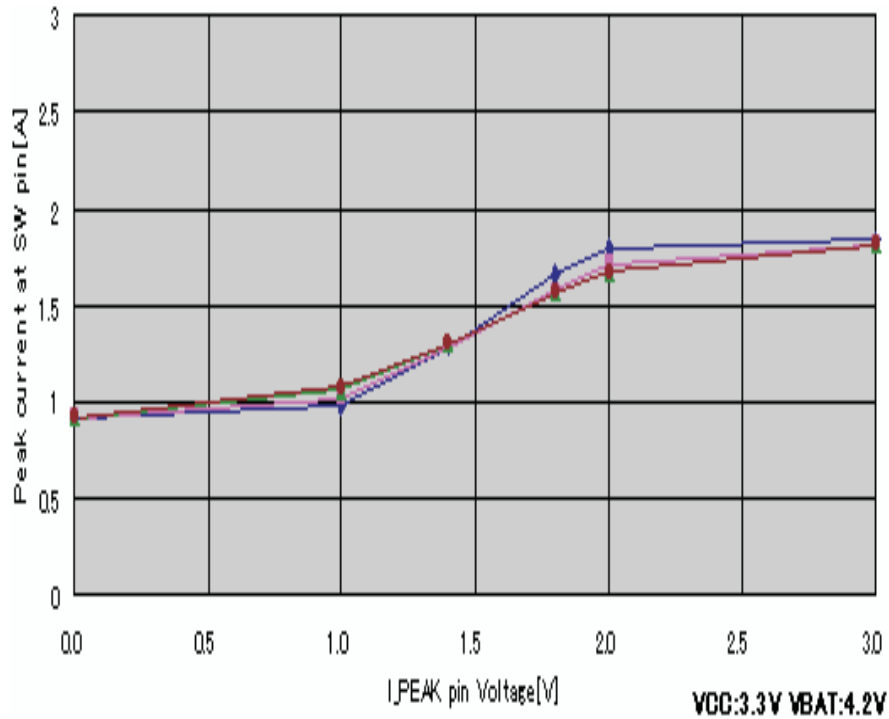
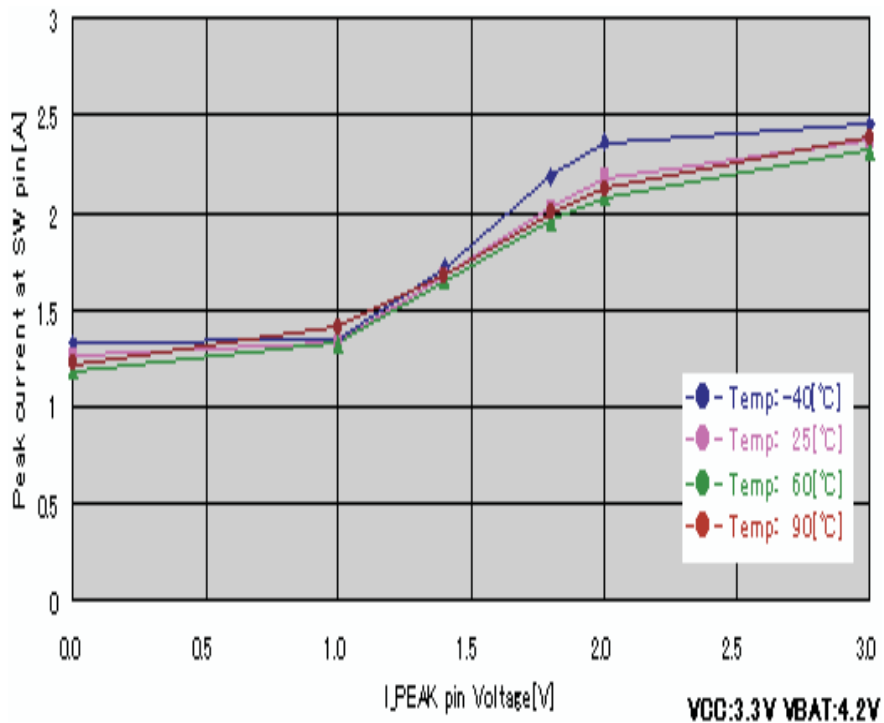

Figure 9. I_{PEAK} Pin Voltage vs Peak Current (TPS65560)
Figure 10. I_{PEAK} Pin Voltage vs Peak Current (TPS65561)
- It is easy to program the peak current at the primary side. The peak current can be set from $I_{(PEAK1)}$ to $I_{(PEAK2)}$ by using the I_PEAK pin of the TPS65560/TPS65561 (see Figure 9). These values ($I_{(PEAK1)}$ and $I_{(PEAK2)}$) are specified in each product data sheet. Section 2.1.3 discusses this in detail.
The I_PEAK pin of the TPS65560/TPS65561 is used to define the peak current in the primary of the transformer. The programmable range is from 0.8 A to 1.8 A. The I_PEAK input is treated as a logic input when its voltage is below $V_{(PKL)}$ (0.6 V) and above $V_{(PKH)}$ (2.4 V). If the input is less than $V_{(PKL)}$ or more than $V_{(PKH)}$, the value of the peak current is equal to $I_{(PEAK1)}$ or $I_{(PEAK2)}$ (see Figure 9). $I_{(PEAK1)}$ and $I_{(PEAK2)}$ are specified in the data sheet. For voltages between $V_{(PKL)}$ and $V_{(PKH)}$, I_PEAK input is treated as analog input. Typical usages of the variable primary current include:
- Use an external controller, and treat I_PEAK as the logic input pin. This method produces only the two values of peak current, $I_{(PEAK1)}$ and $I_{(PEAK2)}$ (see Figure 9 and Figure 10).